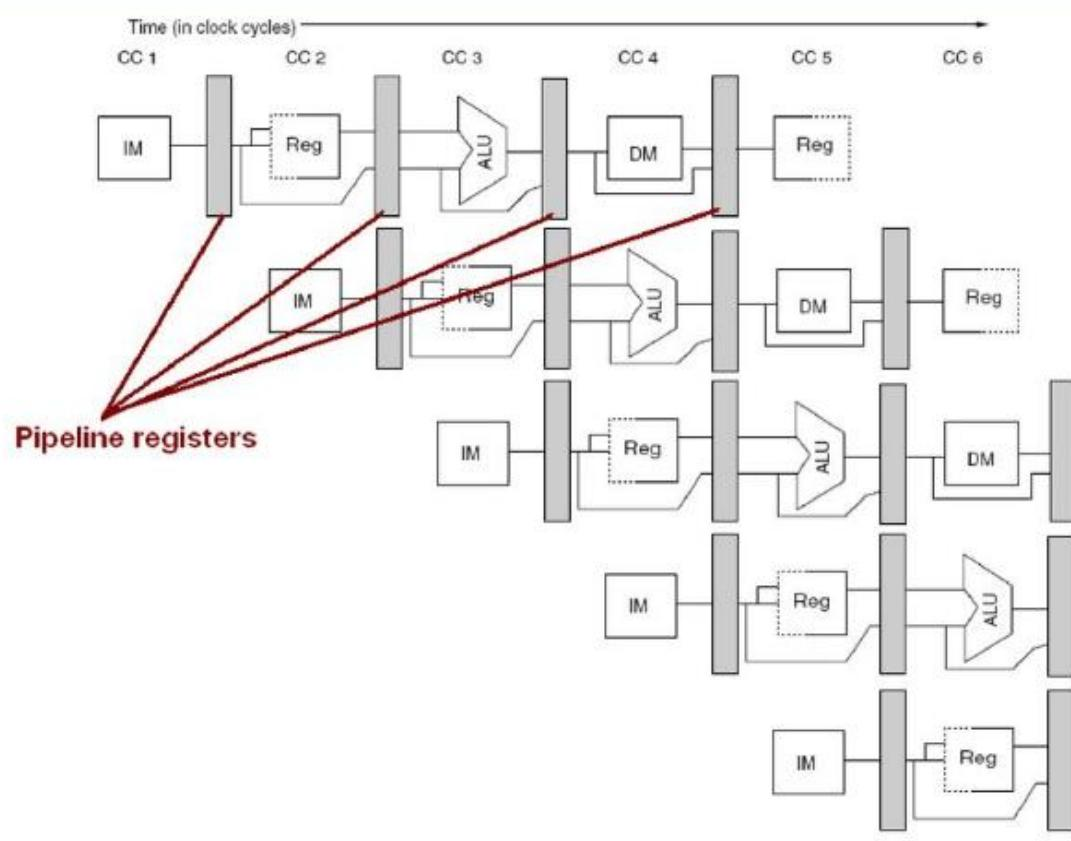

Figure A.3 A pipeline showing the pipeline registers between successive pipeline stages.
- Hence each stage of the pipeline is separated by introducing **pipeline registers (Figure A.3)**